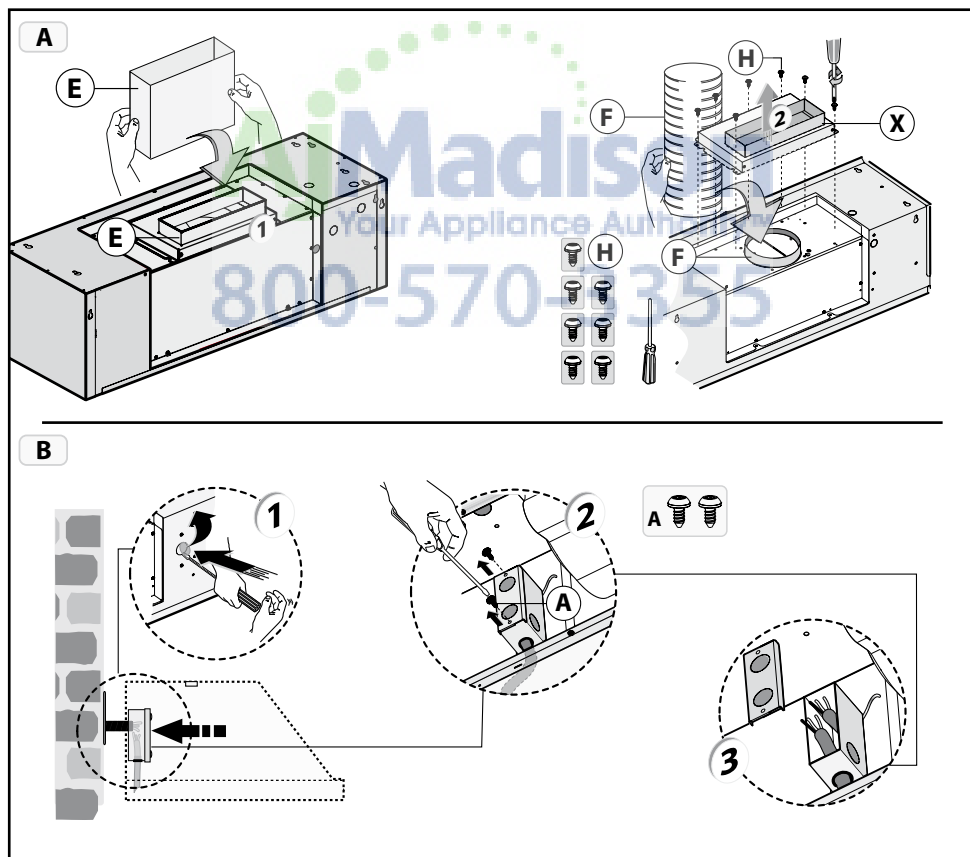

**Fig.3**
- The air evacuation flange is supplied with the rectangular shape **X** and circular shape **Y** (**Fig.3**).